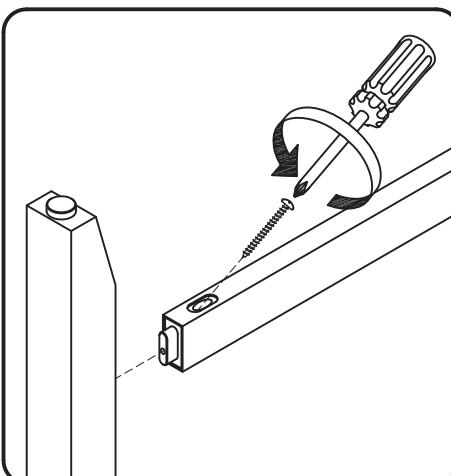

Figure 2
Attach Stretcher (B) to unit with Wood Screws. (See Figure 2)